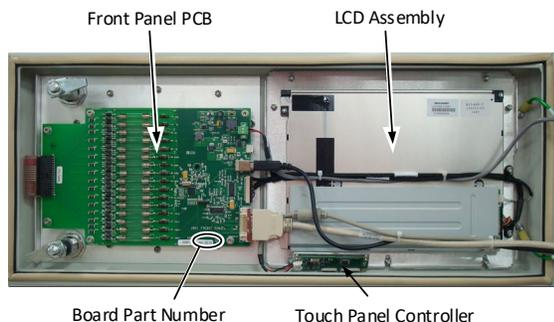

Fig. 8.5. Back of Door
8.2.2 Back of door (see Figure 8.5)